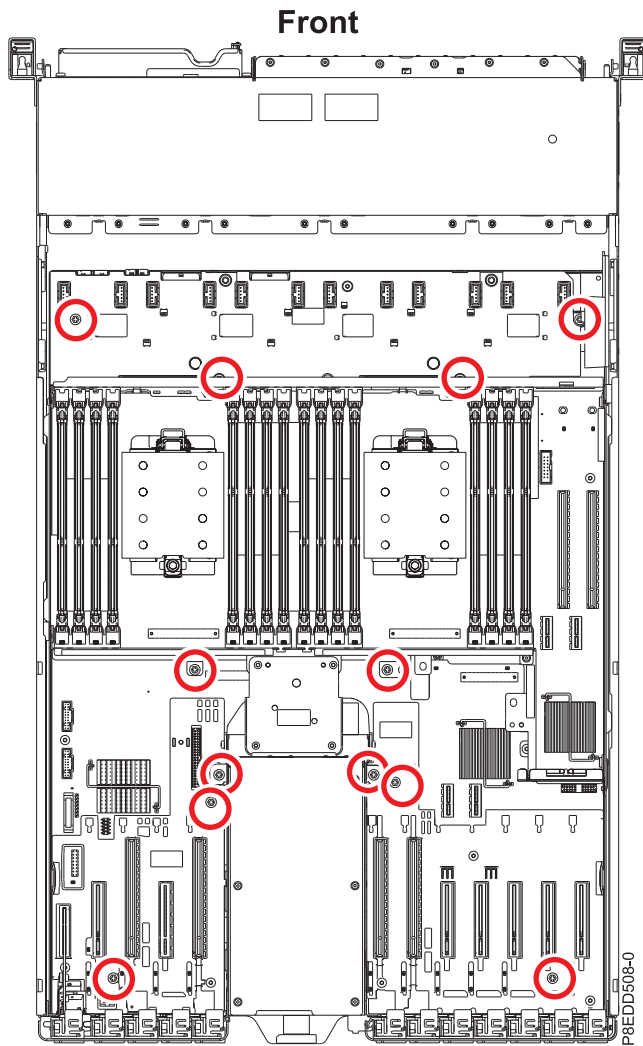

Figure 67. System backplane screw locations
- c. Using a Phillips screwdriver, install and tighten 12 screws to secure the backplane to the base of the chassis. See Figure 67 on page 71.